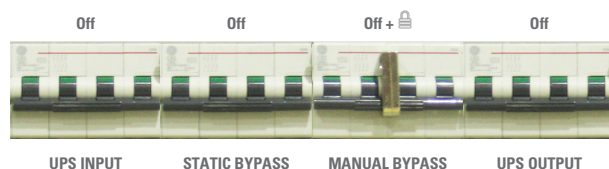

Fig. 9. Position of the manual bypass switches «Out of service» (with one UPS only).
- Check all switches coming from the power supply which feeds the bypass panel, the own ones in the panel (see Fig. 9 or 10 depending on the case) and the ones in the UPS or UPS's are turned «Off».
- Turn the «UPS INPUT» and «UPS OUTPUT» switches of the bypass panel to «Off». In case of including the separate bypass line (-B), turn the «STATIC BYPASS» switch of the bypass panel «Off» too. In the illustration of Fig. 9, it is shown the position of switches once the manoeuvring has been done.